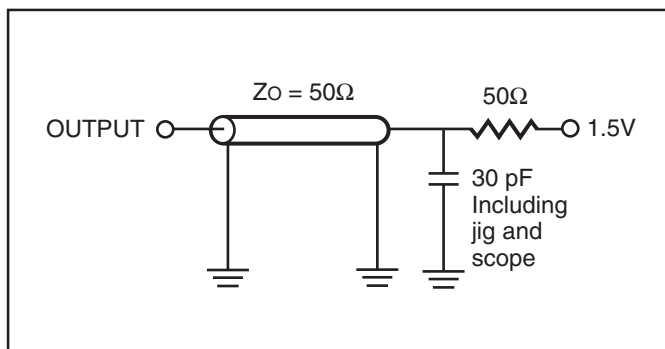

Figure 1.
1. Test conditions assume signal transition times of 5 ns or less, timing reference levels of 0.9V/1.5V, input pulse levels of 0.4 to VDD-0.2V/0.4V to VDD-0.3V and output loading specified in Figure 1.